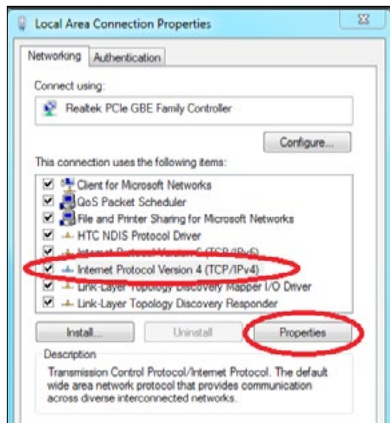

Figure 31: Local Area Connection Properties Window
5.) In the *Connection Items List Box* (**Figure 31**), be sure the Internet Protocol Version (TCP/IP v4) is checked. Click on Internet Protocol (TCP/IP v4) to highlight it and then click **<Properties>**. The *Internet Protocol Properties Window* will appear.